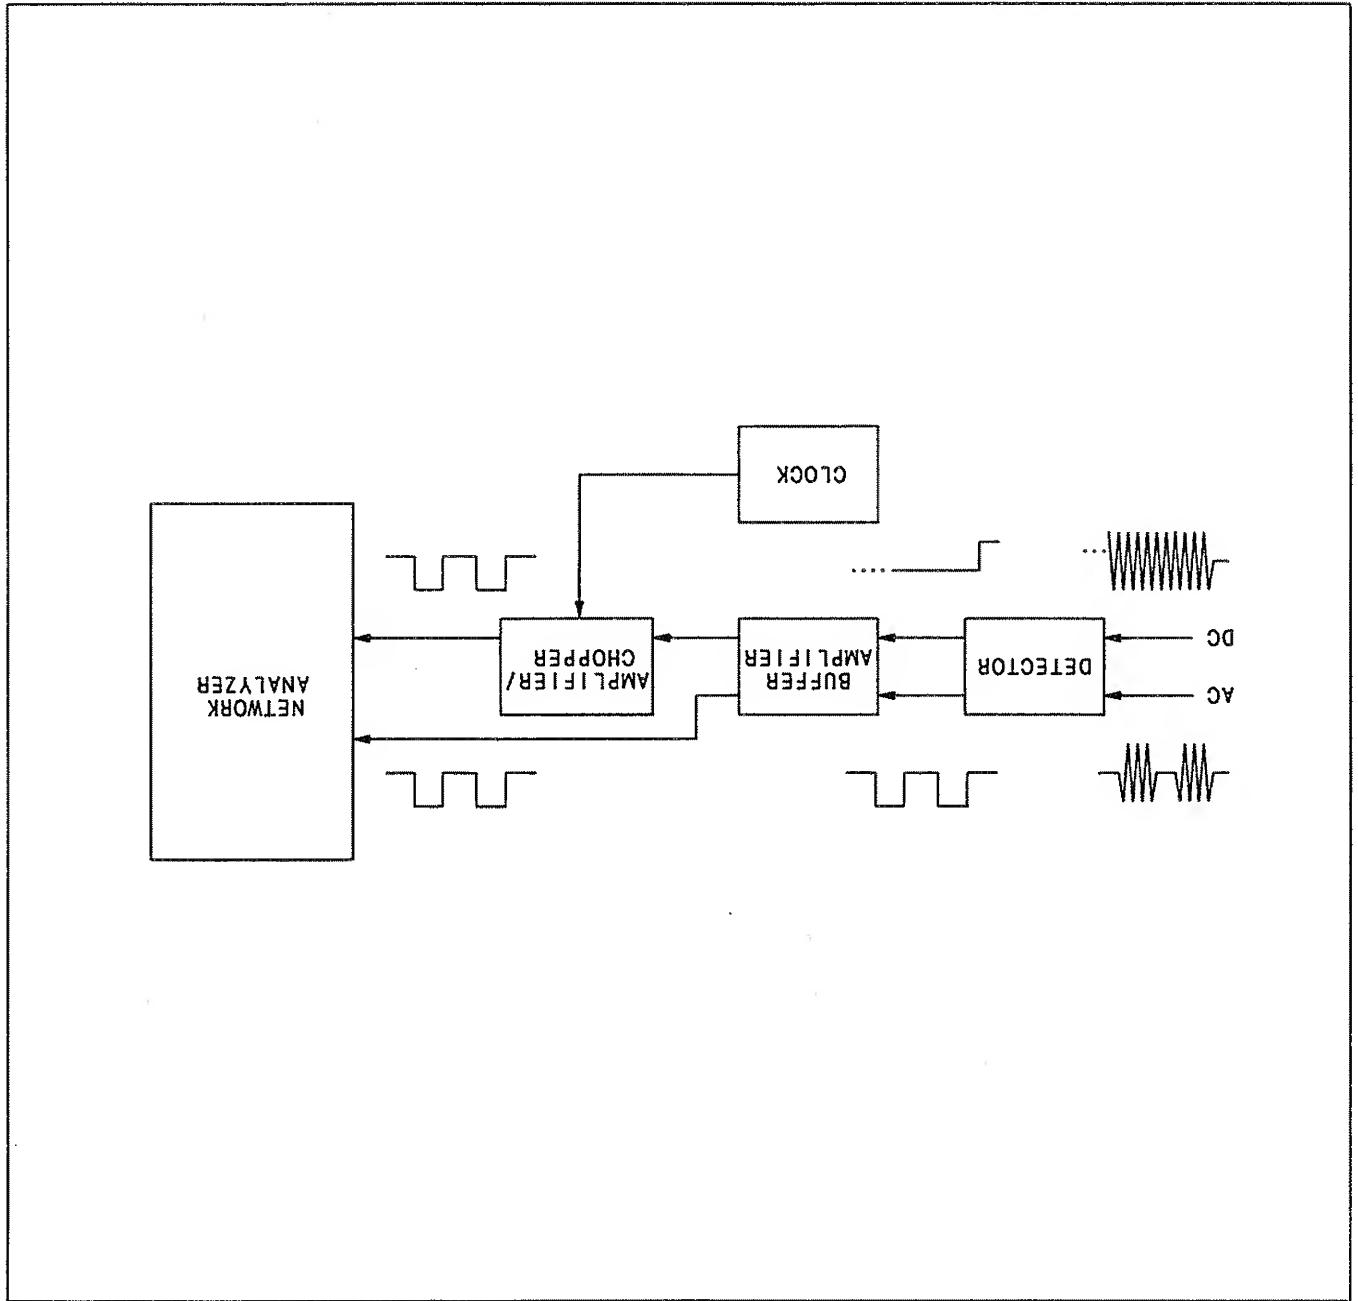

Figure 1. Overall Block Diagram
20. Adjust the gain potentiometer (shown in Figure 1) until a $10.50 \pm .05$ dBm power level is displayed on the HP 8757A.